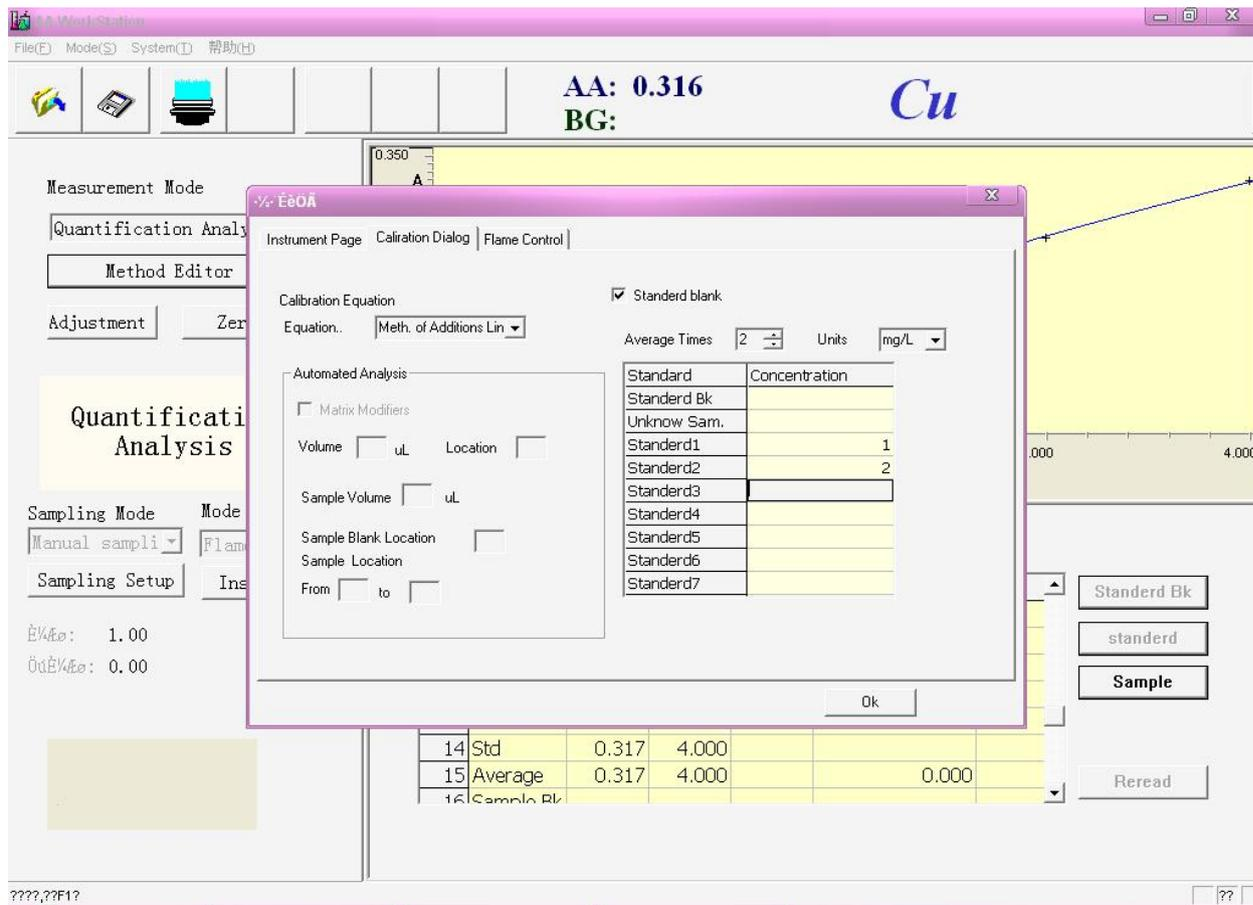

Figure 5-22
6. Select the “Meth.of Addition Linear” in the “Calibration Equation”, figure 5-22 (Notice: at least input 2 standard samples)